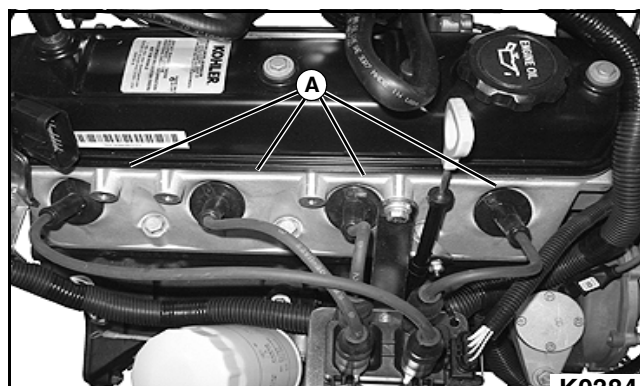

Figure 5-12
2. Use a cloth to wipe dirt and oil away from the area around each of the four spark plug wires (A). See Figure 5-12.